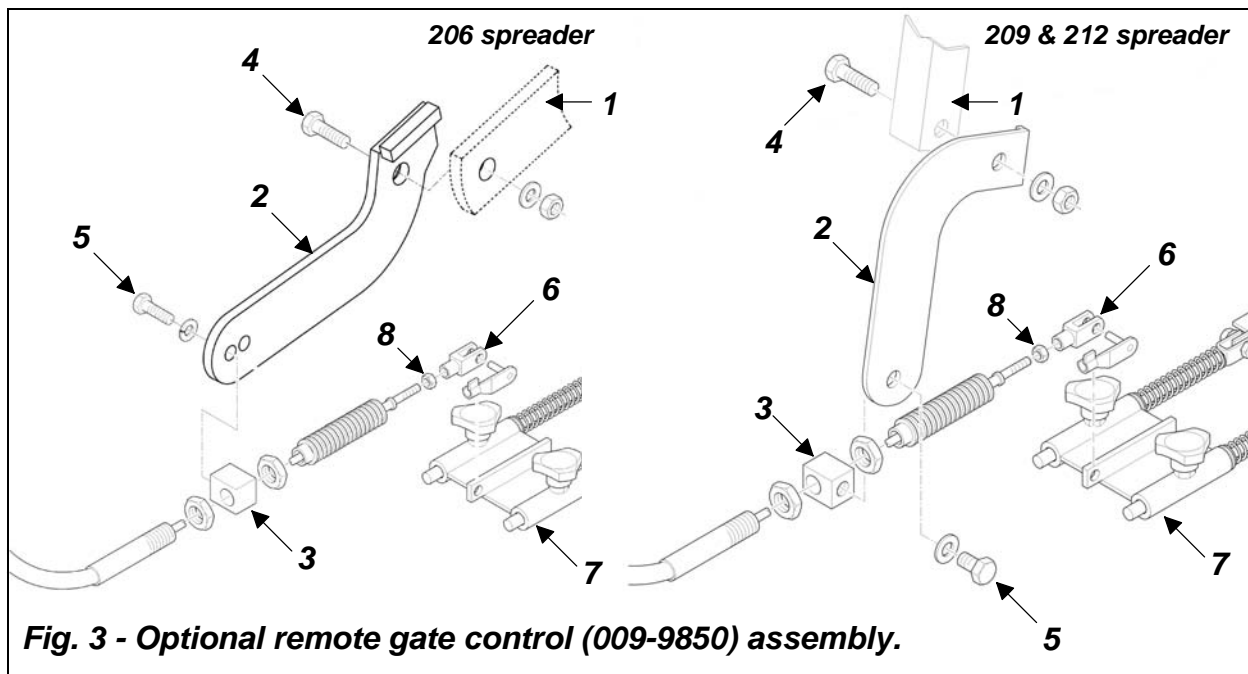

Fig. 3 - Optional remote gate control (009-9850) assembly.
To assemble the remote gate control (#009-9850) on the Hop 206, 209 and 212 spreaders proceed as follows (**see fig. 3**):
4. Attach bracket (#2) to the frame (#1) above the dual shutters. **IMPORTANT:** For models 209 & 212 plate must be attached with bracket (#2) facing inwards while for model 206 plate must be attached with bracket (#2) facing outwards (**see fig. 3**).